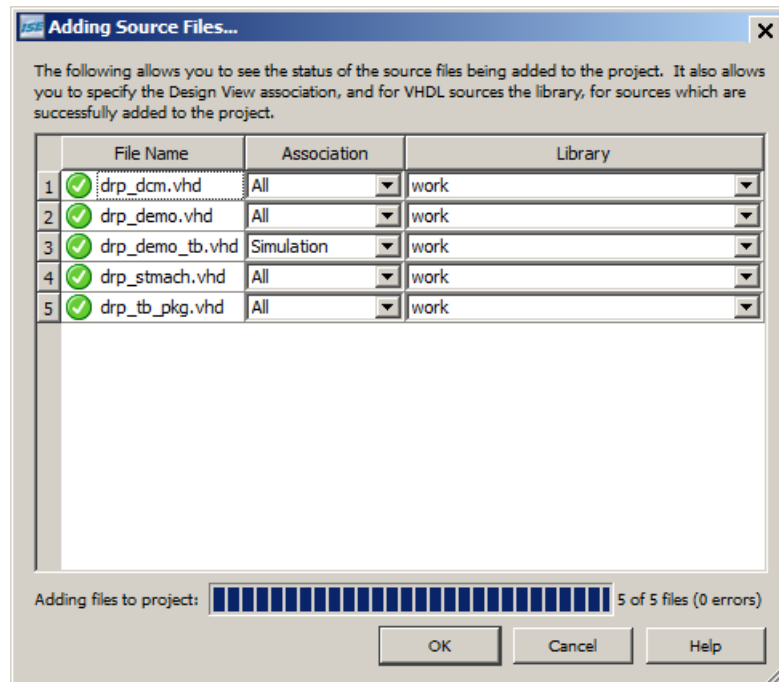

Figure 2-2: Adding Sources Files Dialog Box: Status of Source Files and Associations
4. In the **Adding Source Files** dialog box, ensure that the association and libraries are properly specified for the tutorial sources. Compare your settings with those in Figure 2-2.